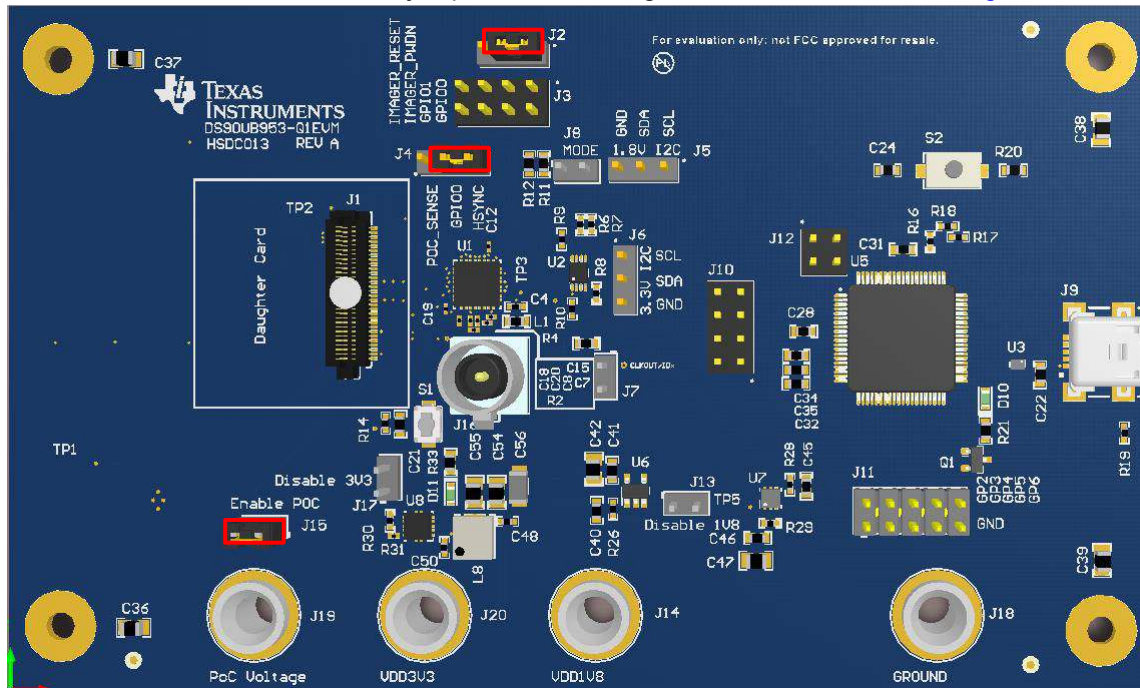

Figure 3-33. DS90UB95x-Q1EVM With Installed Jumpers
- On the DS90UB953EVM, ensure that jumpers are covering the headers as shown in Figure 3-33.